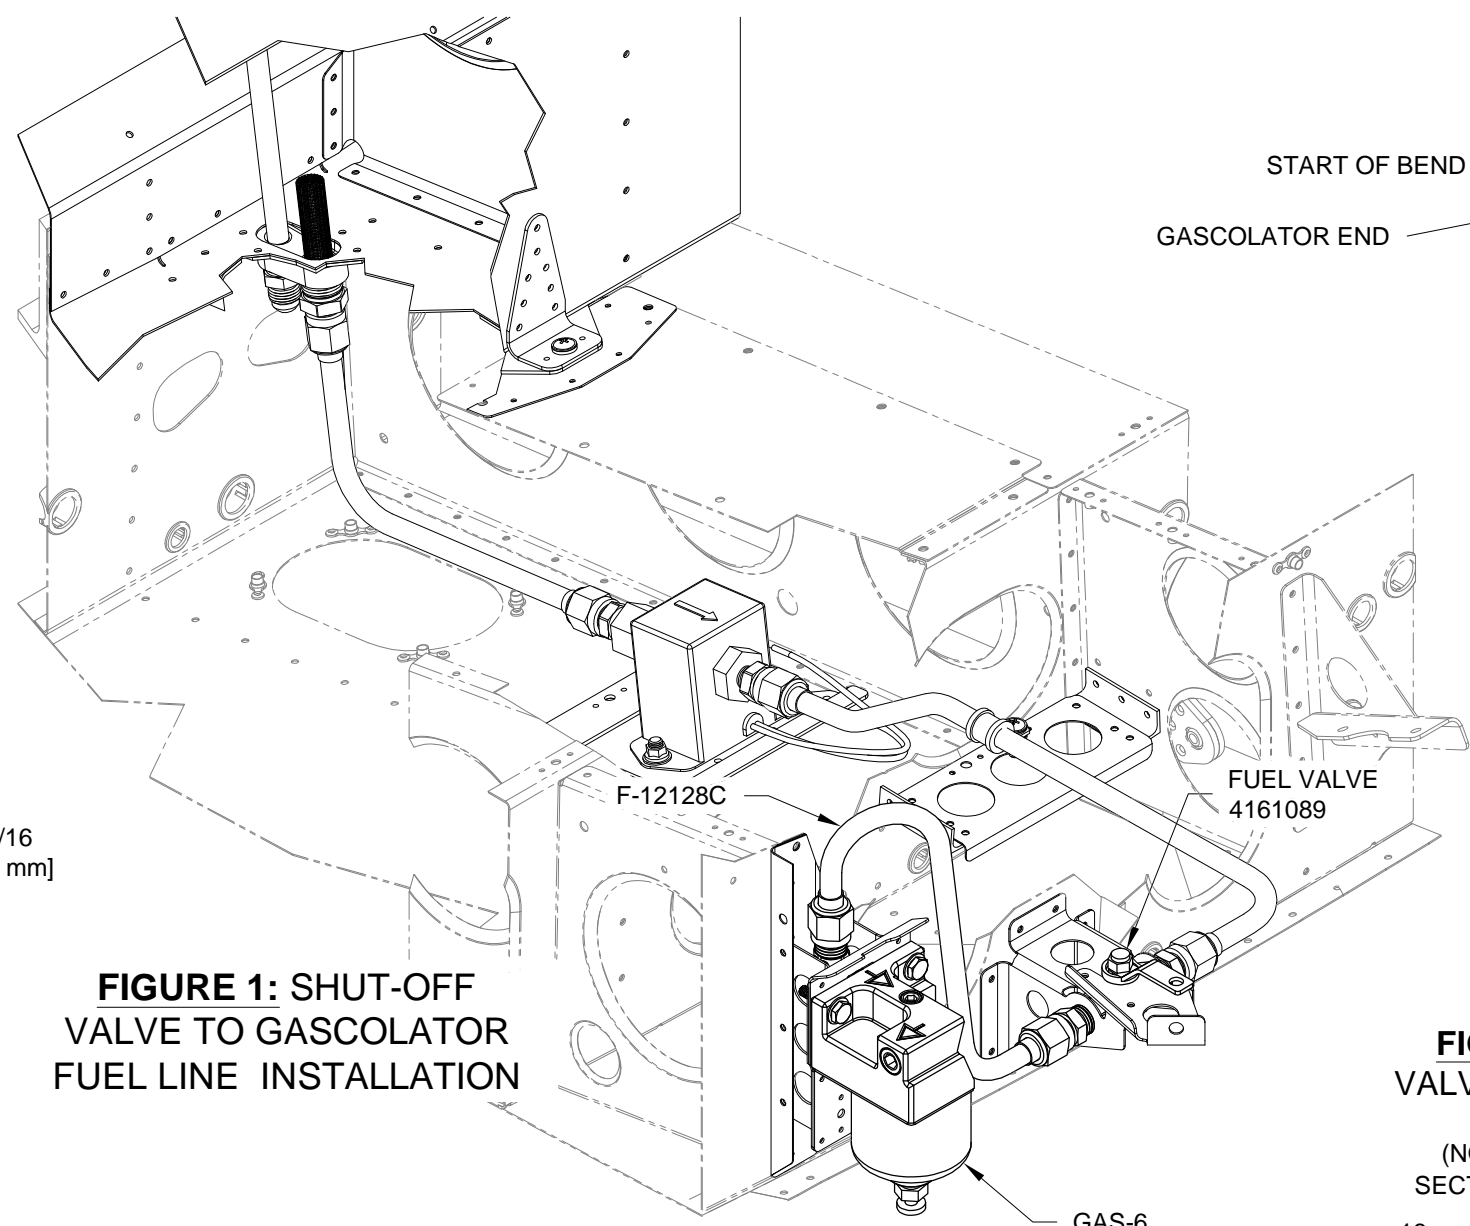

FIGURE 1: SHUT-OFF VALVE TO GASCOLATOR FUEL LINE INSTALLATION
Step 1: Install the F-01276C-1's with oval recess on the right side, as shown in Figure 1.
NOTE: Check the installed fitting depth of the FLF-00017 Fitting against the nominal dimension as shown in the detail view in Figure 1. If the installed fitting depth is more than .063 in. [1.6 mm] different than the nominal dimension shown, adjust the tubing length in Step 2 and the bend location in Step 3 accordingly.